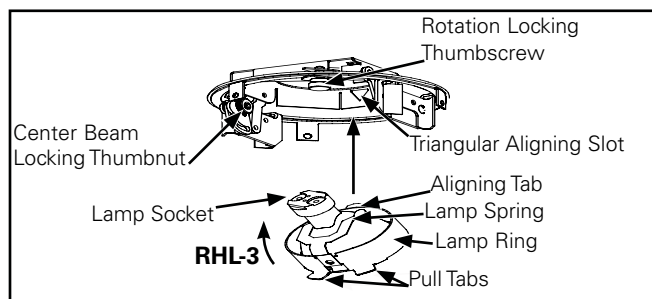

Figure 6.
1. Pull tabs down on Lamp Ring until unit disengages from the spin disc assembly (Figure 6.).
2. Insert new lamp. Ensure that the lamp is seated against the Lens and retained by the Lamp Spring. Push Socket onto Lamp (Figure 6.).
3. Feed Socket leads into can and align the Aligning Tab on the Lamp Ring with the Triangular Slot in the Adjustment Bracket. Push on tabs until unit "snaps" into place (Figure 6.).
Loosen the Rotation Locking Thumbscrew (Figure 6.). Rotate Spin Disc into desired location. Tighten Rotation Locking Thumbscrew.
Loosen the Center Beam Locking Thumbnut (Figure 6.). Insert a screwdriver in-between the Hot Adjustment Tabs, into the Adjustment Bracket. Aim beam to desired location and Tighten Thumbnut.